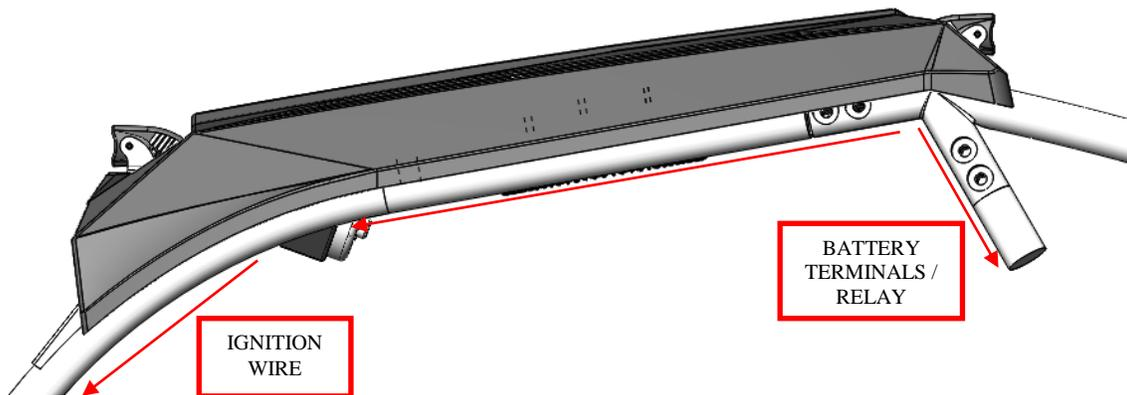

Figure 9: Route the chassis wire harness.
9. Route the end of the chassis wiring harness with the battery terminals along the driver's side center chassis tube ("B pillar"). The end with the battery terminals and relay block will extend down the B pillar to the battery underneath the driver's seat. See Figure 9.
Route the small ignition wire and ignition ring terminal along the cage and down the front chassis tube ("A pillar) to the opening into the dash area. See Figure 9